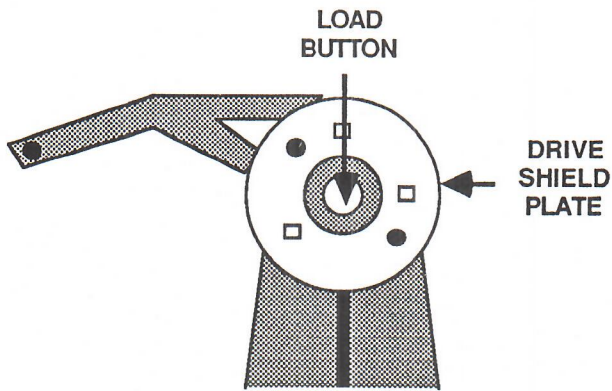
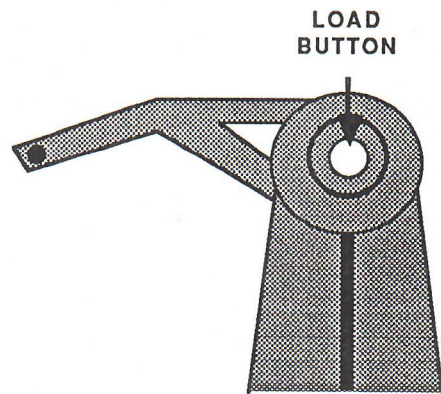
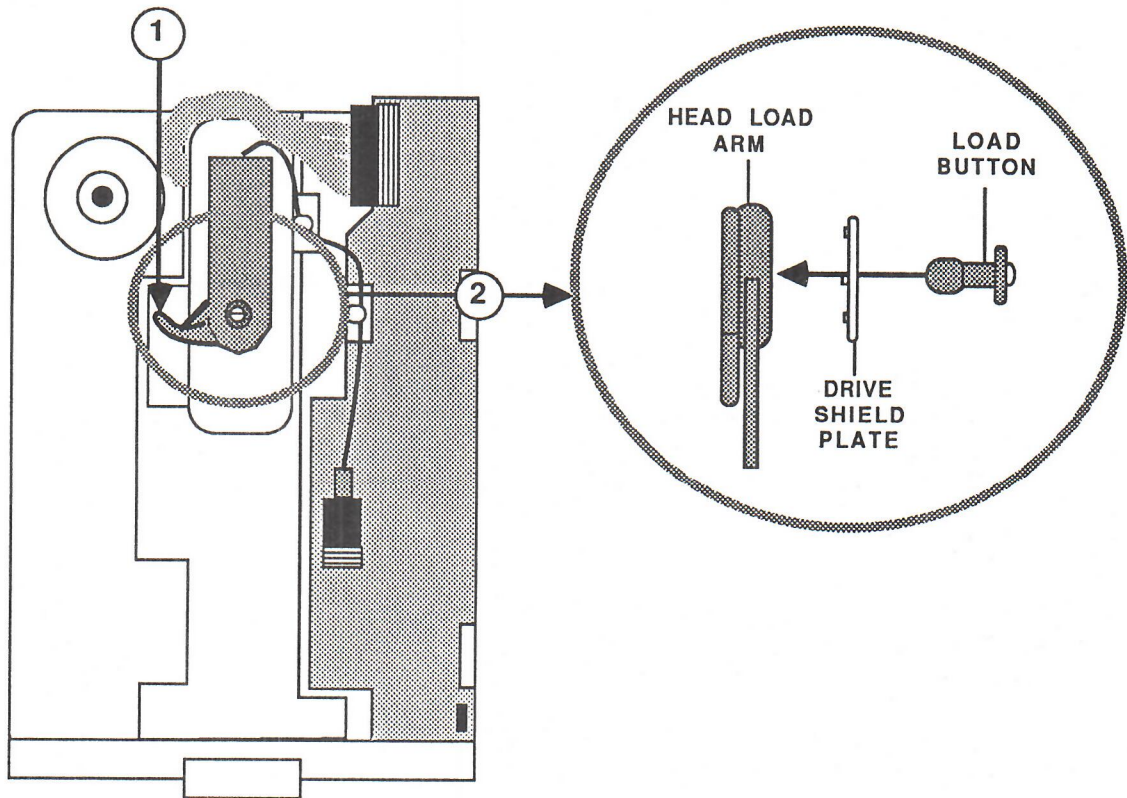

FIGURE 2
FIGURE 3
FIGURE 4
The internal disk drive (Figure 3-C) is composed of two exchangeable modules: the analog card and the mechanical assembly.
The keyboard (Figure 3-D) is a matrix of keyswitches connected to the logic board via a ribbon (flat) cable. The 3600 PRO keyboard encoder IC on the logic board translates the information from the keyboard into signals that the logic board can use.
If the IIc repeatedly fails to boot, or has difficulty reading or writing, it may be caused by an unshielded disk drive read/write head assembly. To determine if the drive is shielded, lift the head load arm (see Figure 4, #1) and compare it with Figures 2 and 3. Figure 2, with the metal plate installed on the head load arm, is completely shielded. Figure 3, without the metal plate installed, is unshielded.
If your disk drive looks like Figure 3, install the upper head shield plate. If booting or read/write failures persist, replace the disk drive.
5. Lift up the head load arm (Figure 4, #1), squeeze the top part of the load button with small needle-nose pliers, and let the button drop down.
6. Place the upper head shield plate against the head load arm so that the raised ridges face the arm and the circular opening is aligned with the opening in the arm (see Figure 4, #2).
7. Reinstall the load button (or, if necessary, install a new one). Insert it through the hole in the shield plate and into the head load arm (see Figure 4, #2). Press the button until it snaps into place.